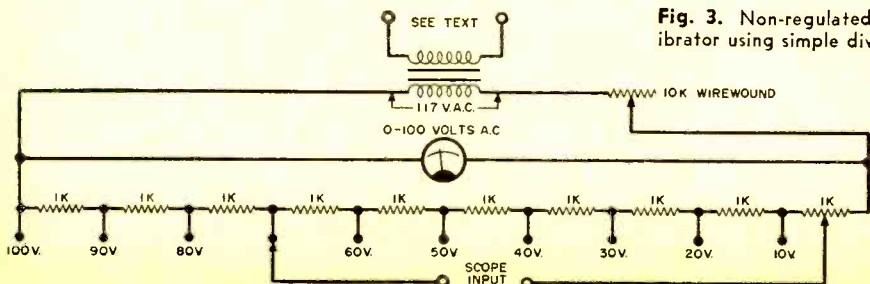

Fig. 3. Non-regulated voltage calibrator using simple divider network.
Although the more complicated calibrators using square waves are desirable, a less expensive unit can serve for most applications. With a little care in calibration and construction, the one shown in Fig. 3 will give very good results.
the stator coils, however, since the terminals are open. To see what happens next, let us connect the inside stator terminals together to form a so-called "wye" (like the letter "Y") and add a "load box" to complete the stator circuits (Fig. 3). It doesn't matter what the load box contains—resistors, capacitors, inductors, etc.—because we are interested only in current *directions* at this time.
**Fig. 3.** Currents induced in stator windings by a.c. flowing in rotor have directions shown. Electron flow direction is taken as current direction in this discussion.
poses the original field. Thus, the stator magnetic fields must oppose the rotor field, and the current that flows in the stator must have the direction required to give rise to this opposition. To check the current directions as given in Fig. 3, apply the left-hand rule; wrap the fingers of the left hand around the coil in the direction of the indicated current, and the thumb, held perpendicularly to the hand, will point in the direction of the field. (This rule is explained in most physics textbooks.)
Applying this idea to the fields induced in the three stator cores of Fig. 3, it is evident that the resultant stator magnetic field may be represented by an arrow pointing in a direction opposite from that of the rotor field (Fig. 5).